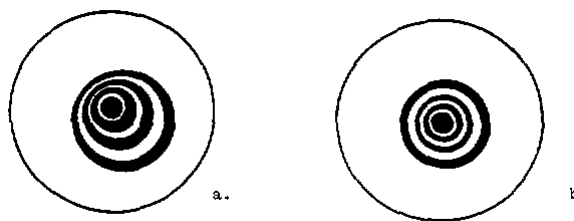

FIG. 4: Out-of-Focus Star Image
**Step 4:** After Steps 1-3 have been followed, your DS-10 telescope will be well-collimated. Final "fine-tuning" of the collimation must be performed while observing a star through the telescope, with an eyepiece in place. Center a fairly bright star in the telescope's field of view. Then defocus the star image. It will then appear as in Fig. 4, with several rings surrounding the central star. If Step 3 was performed accurately, these rings will be round and concentric; if not, adjust the wing nuts of the primary mirror cell until the rings are well-centered, as in Fig. 4b. (In any case, it is not necessary to re-do Steps 1 and 2.) With this centering accomplished, collimation is completed.